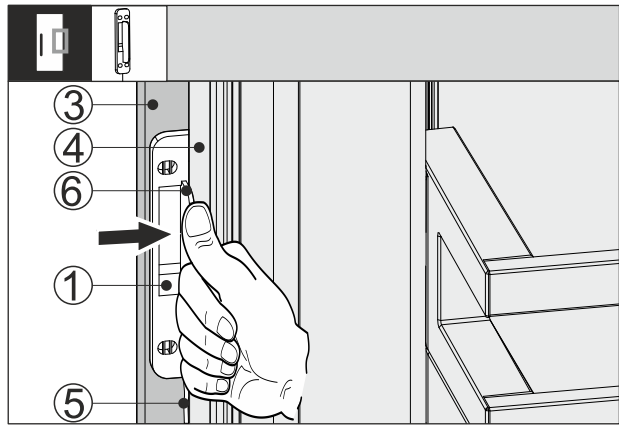

Fig. 66
- ▶ Push the knocking sensor Fig. 66 (1) between the cabinet front Fig. 66 (3) and appliance door Fig. 66 (4) so that the cable Fig. 66 (5) is slightly tensioned. The stop Fig. 66 (6) of the knocking sensor is touching the appliance door Fig. 66 (4).
- ▶ Press the knocking sensor Fig. 66 (1) onto the cabinet front Fig. 66 (3).
- ▷ Knocking sensor Fig. 66 (1) is glued on. Gluing the knocking sensor on optimizes the transmission of the knocking signal.
- A permanent attachment of the knocking sensor Fig. 66 (1) increases the service life.
- ▶ Screw the knocking sensor Fig. 66 (1) onto the cabinet front using the supplied screws Fig. 66 (3).